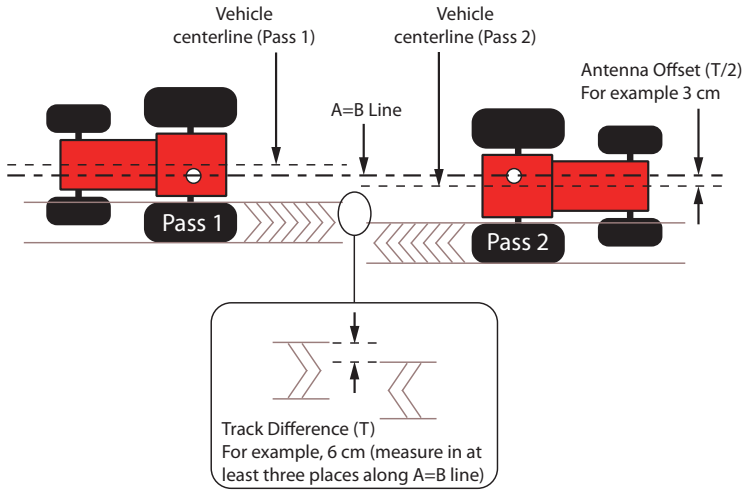

Figure 3-2: Determining antenna offset (example $6/2 = 3$ cm left)
2. Maintaining a speed of 5 kph (3 mph) engage steering and let the system steer you along the guideline for at least 100 m. See Pass 1 in Figure 3-2.
3. Perform a keyhole turn, re-engage the steering, and let the system steer you down the same guideline. See Pass 2 in Figure 3-2.
4. In three different places along the A=B line, measure the distance between the corresponding track marks (inside edges, outside edges or centers, whichever are easiest to see and measure, see Figure 3-2). If there is variation, calculate the average difference. In Figure 3-2 the track difference is 6 cm, measured at the outside edges of the track marks at one point on the A=B line.